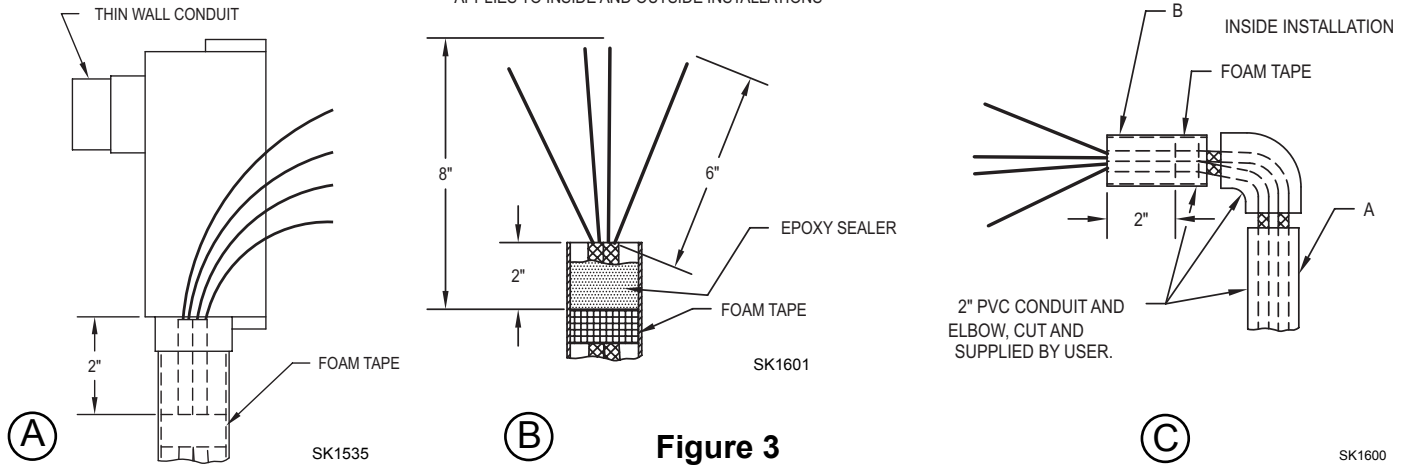

Figure 3
3. Apply foam tape around alarm and power cables as shown in Fig. 3(B) and push inlet cables with tape back in to the pipe as shown in Fig. 3(B). The tape must fit snugly to the inside of the conduit.
3. Pull alarm and power cables (UF cable) thru the PVC conduit Fig. 3(C), elbow, and short conduit. Strip the jacket and conductor insulation as shown in Fig. 3(B).
4. Solvent weld PVC elbow to the conduit Fig. 3(C). Apply foam tape around alarm and power cables as shown in Fig. 3(B) and push inlet cables with tape back into the pipe. The tape must fit snugly to the inside of the conduit.